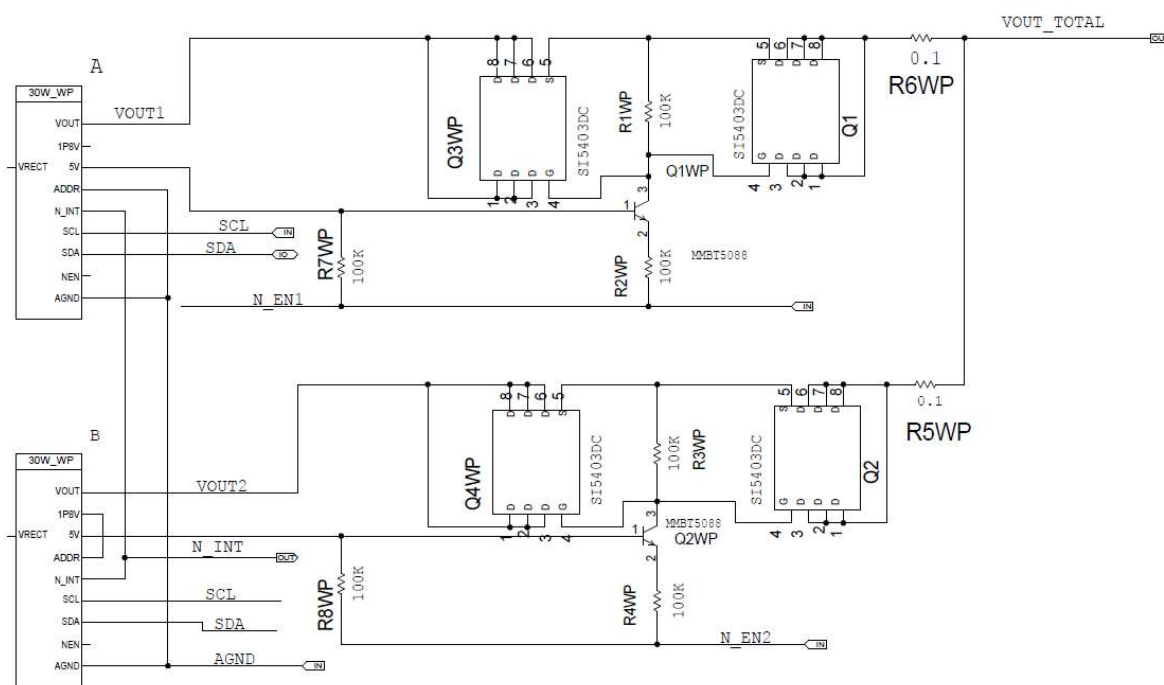

Figure 9-2: Interface Circuitry Between Wireless Power Receiver and Motherboard.
With the enable signals set to high (1), each P9415 output is not connected to the charger board. See Figure 9-2.